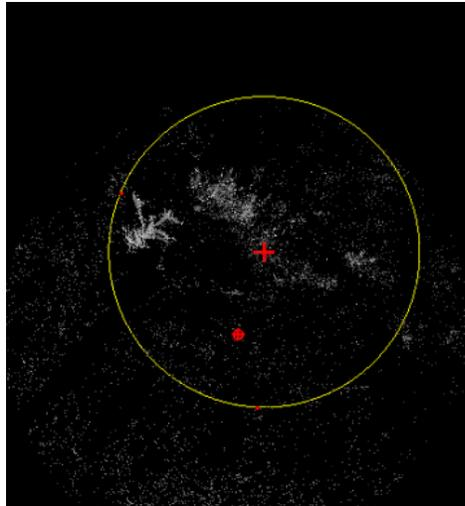

Figure 3-81 Fitting the center of a circle
- Fit the center of the circle: click on the magnifying glass view to select two points to determine the diameter of the circle, move the mouse to determine the shape of the circle, at this time the center of the circle is to determine the point (Figure 3-81).